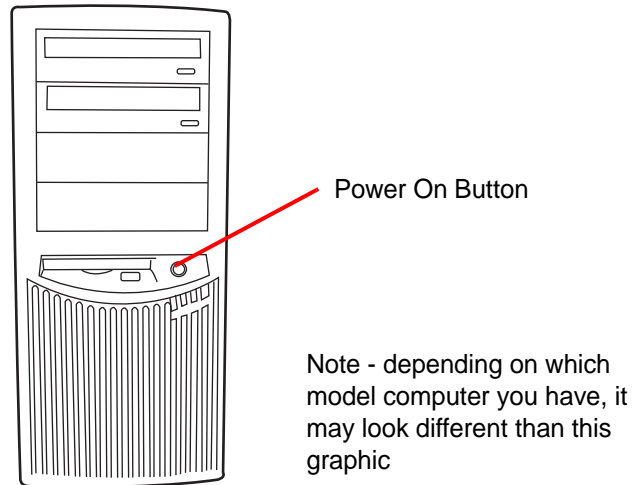

Figure 3-3 Power on the Server
3. At the Server, push on the power button. See Figure 3-3.